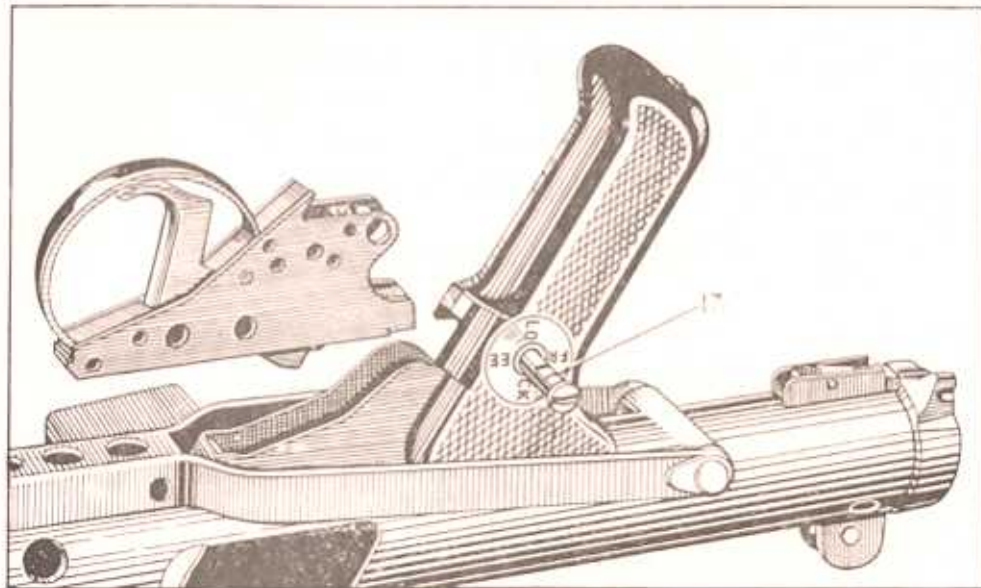

Fig. 11. To remove trigger group
- 8.2 TO REMOVE TRIGGER GROUP** (Fig. 11). Set change lever at " Safe ", and with a small coin or rim of a cartridge turn the slot in the head of the trigger group retaining pin (17) in line with the word " Free " on the right side of the pistol grip. With the nose of a bullet or the blunt end of the cocking handle push trigger group retaining pin out and remove. Pull trigger group towards rear of weapon, disengage from step in underside of barrel case and swing front of trigger group out and remove from body. To remove trigger guard, push out forward pin, swing guard downward, pivoting about its rear fixing, and unhook from underplate.